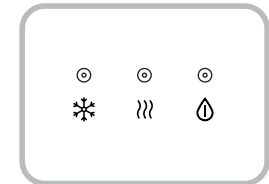

Fig.3
6. Turn ON the hot water switch, wait a couple minutes and turn ON the cold water switch. Allow the unit to reach the minimum cold and maximum hot water temperatures. This will take approximately 35 to 60 minutes and the Indicator Light will turn OFF. (Fig.3)